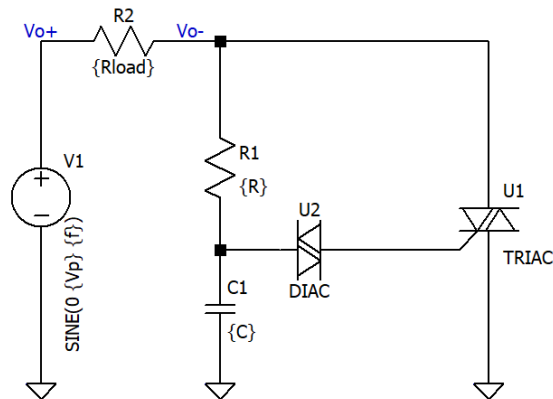

Figure 7.1 AC-AC Converter
1. Connect the circuit as shown in Figure 7.1.